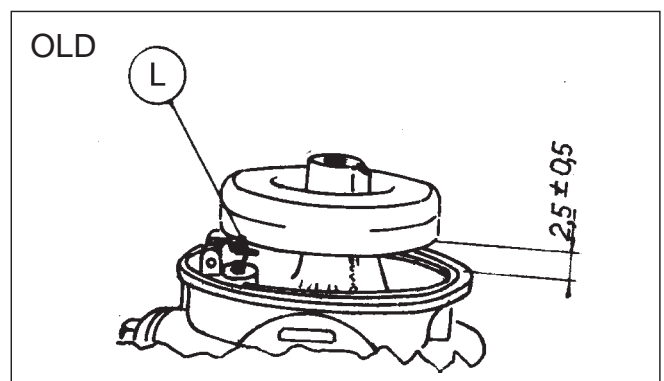

Fig. 16
Invert assembled float and carburettor body and check clearance between body and float at portion of float opposite hinge. Clearance should be $\frac{3}{32}$ " (2,5 mm +/- 0,5) (Fig 16). If adjustment is necessary, remove the float shaft and bend the tang (L) on float lever, raising or lowering it until correct clearance with the float mounted, is obtained.
If the carburettor is fitted with a white plastic float, the distance 'L' (Fig 16) is pre-set and non adjustable. If this setting is not correct, or float is damaged, a new float must be fitted.